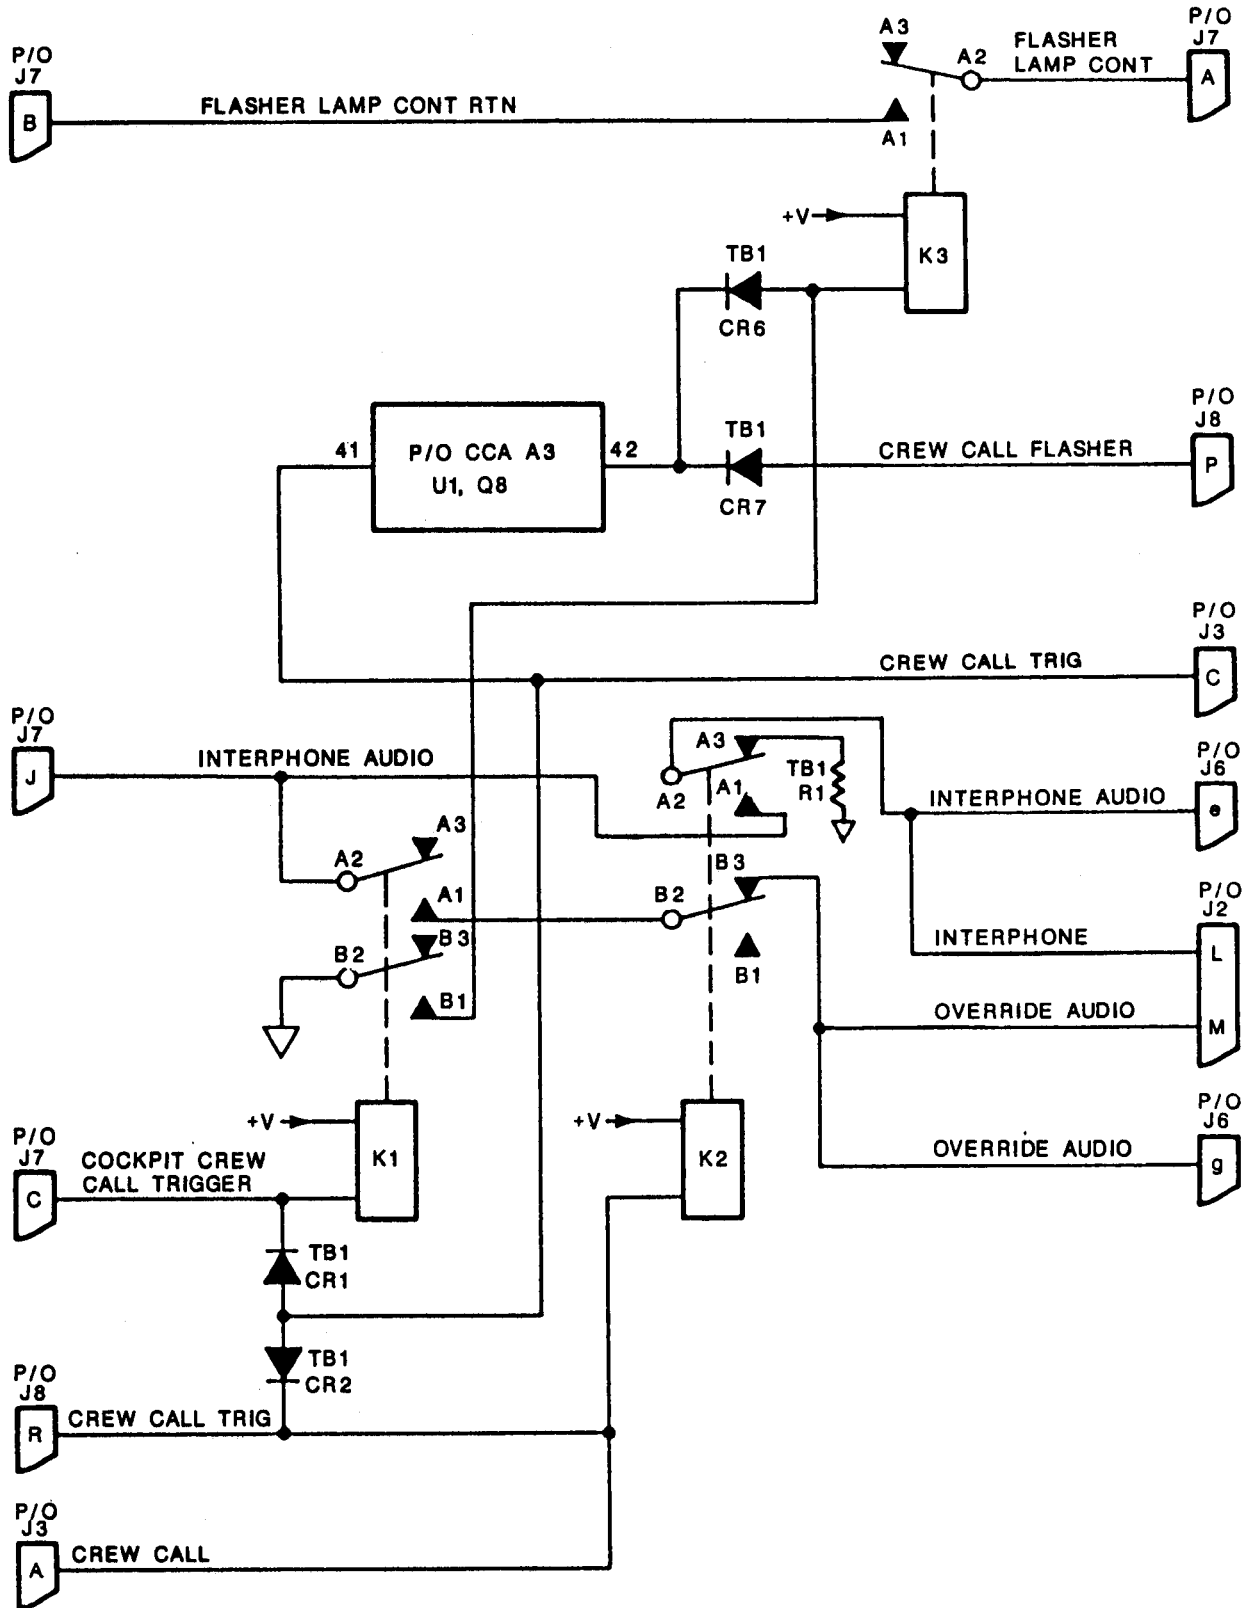

Figure 3-2. Countermeasures Control Intercom Control Circuit Simplified Schematic Diagram
(2) Intercom Control Circuit. As shown in figure 3-2, the intercom circuit receives CREW CALL control inputs at connector pins J7-C, J8-R, and J3-A. When any input is a low (logic 0) signal, current flows through diode TB1CR1 or TB1CR2 to provide a low to external system equipment at connector pin J3-C. In addition, the following functions occur: